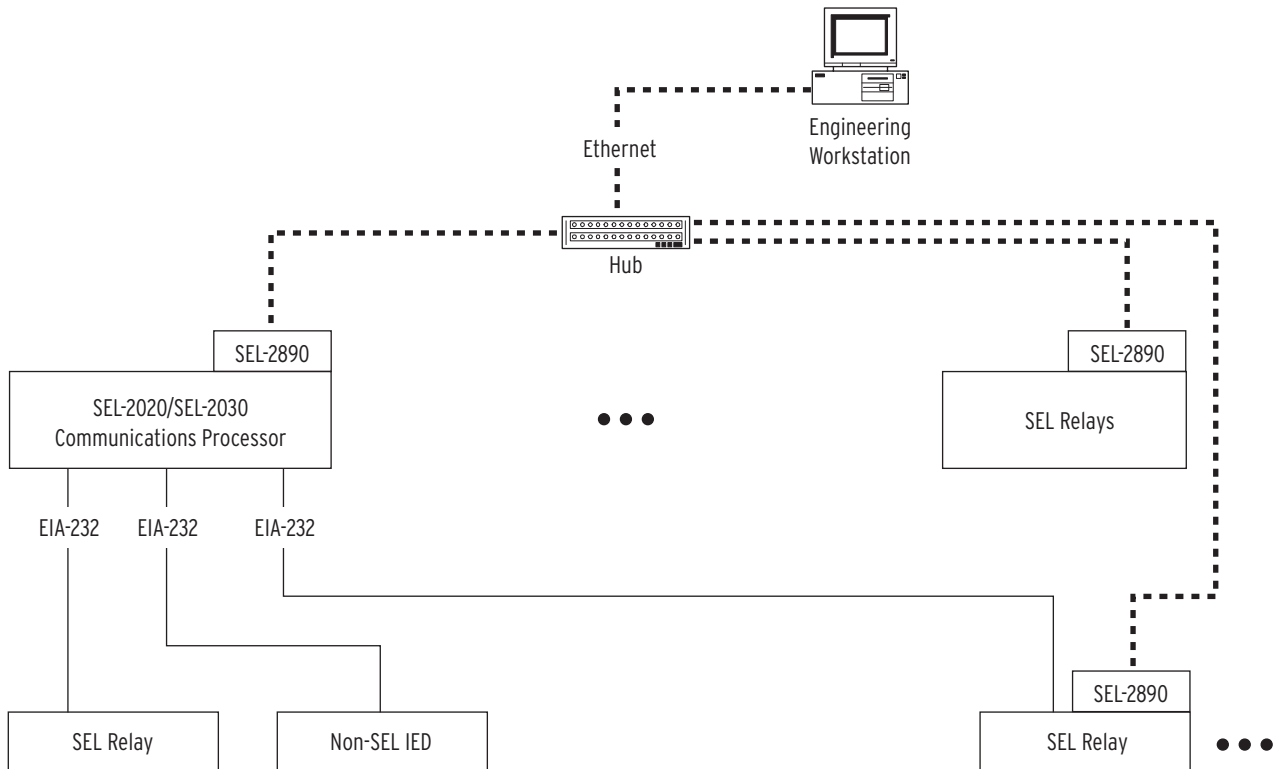

Figure 1 Telnet Session
Establish serial communications between a PC or terminal and an SEL relay over an Ethernet network. Use standard SEL ASCII commands as if you are connected locally with a direct serial communications cable. All that is required to establish a connection is the Internet Protocol (IP) address or the host name (when supported). Use Telnet to establish a session or disable the Telnet processing and connect directly over TCP. Telnet application software comes standard with the Windows 95 and higher operating systems. *Figure 1* depicts a typical system connection diagram.